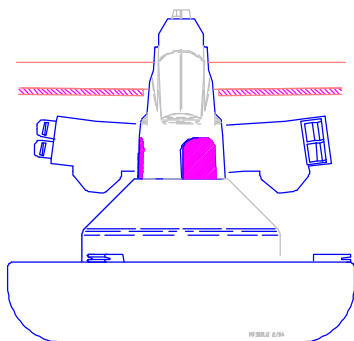

Figure 1.
2. Wrap the Feed Collar around the feeder, as shown in Figure 1.